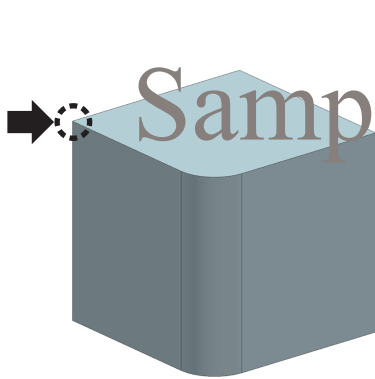
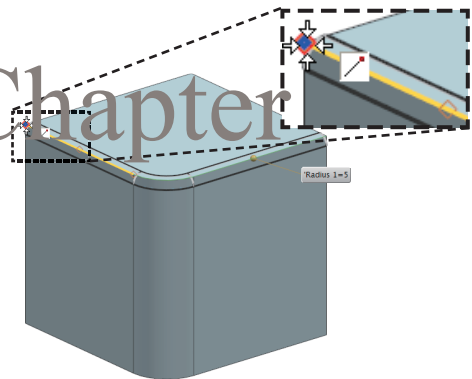

Fig 6-28 End Point of the Edge
Fig 6-29 Snapped End Point
7. Select the end point designated by the arrow in Fig 6-28. Be sure to click MB1 when the end point is snapped as shown in Fig 6-29. Any of the three edges that meet at the vertex may be highlighted.